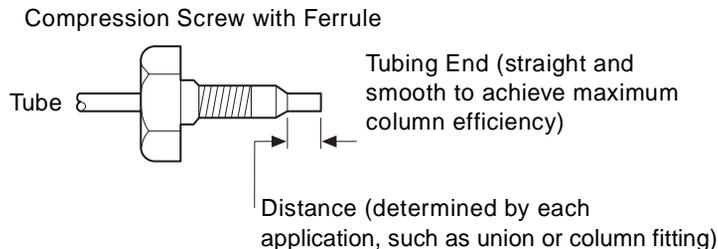

Figure 2-3 Ferrule and Compression Screw Assembly
1. Slide the compression screw with ferrule over the tubing end (Figure 2-3).
2. Mount the ferrule with its taper end facing the end of the tubing (Figure 2-3).